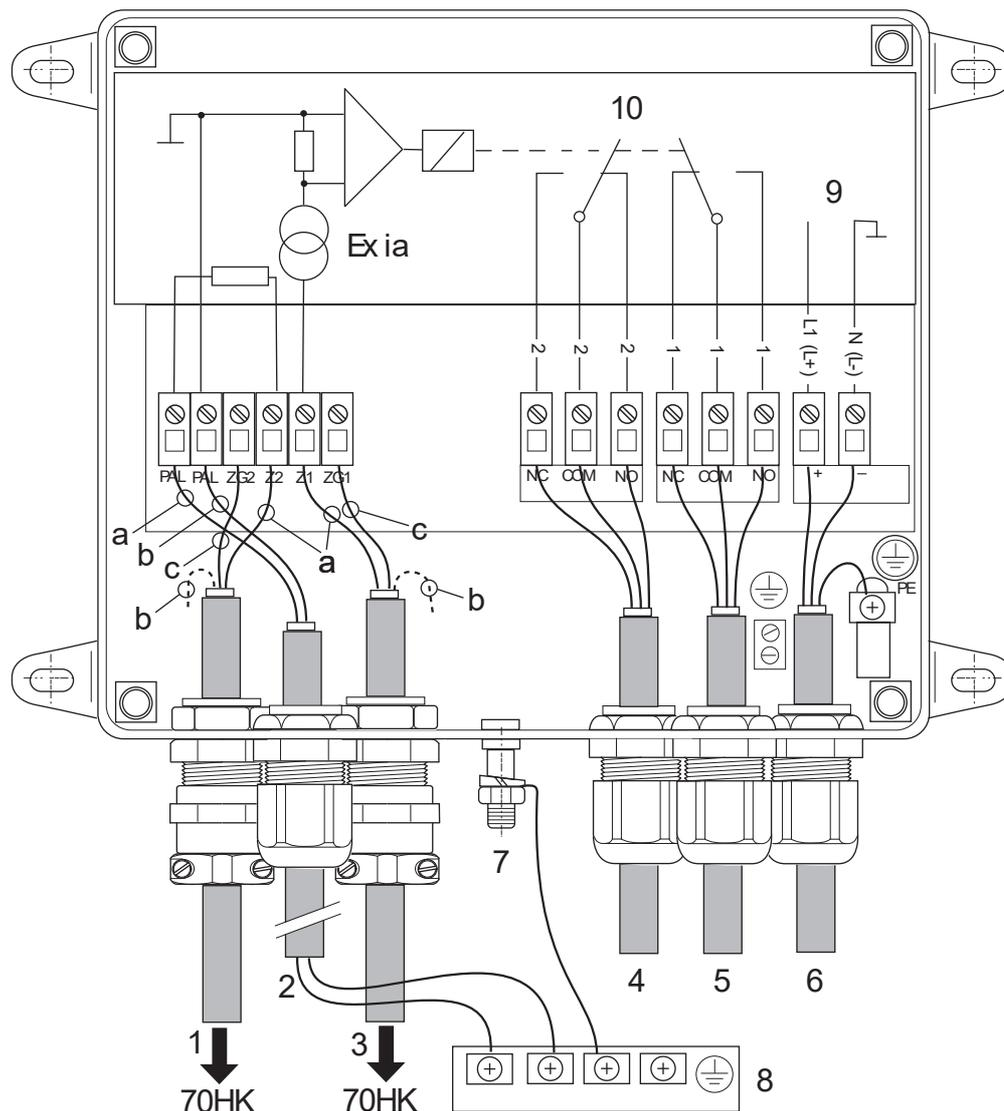

**Fig. 4:**
- The unit must be connected to the equipotential bond via the external ground terminal (7, Fig. 4 / Fig. 5). In addition, the ground terminal inside the enclosure must be connected to a PE conductor or a bonding conductor (see chapter 3.1.2 "Assembly", page 13).
- Intrinsically safe circuits must be routed separately from non-intrinsically safe circuits (separate cable conduits/ducts). Crossing intrinsically safe and non-intrinsically safe leads is not permitted. An equipotential bonding connection (PA) must be established along the entire intrinsically safe measuring circuit (see chapter 3.1.3 "Electrical connections", page 14, chapter 3.2.2 "Electrical connections", page 20).
- A potential equalization system (PA) has to be set up along the complete measuring circuit (see chapter 3.1.3 "Electrical connections", page 14).
The unit must always be connected to the equipotential bond via the external ground terminal (7, Fig. 4 / Fig. 5). In addition, the ground terminal inside the enclosure must be connected to a PE conductor or a bonding conductor.
The connection space of the unit is accessible after opening the cover of the enclosure. The terminals for the clamps are located on the left. These circuits are intrinsically safe. The non-intrinsically safe terminals for the supply voltage and the signal contacts are located on the right (see Fig. 4 / Fig. 5).
- Insert cable and connect according to Fig. 4 / Fig. 5.
The connecting lead of the ground contactor is routed in via the cable gland with kink guard (1, Fig. 4 / Fig. 5). Appliances for BIG-BAG grounding have two contact makers, and the second lead is routed in via an additional cable gland with kink guard (3, Fig. 5).
A two-core cable for connecting the ground circuit with the PAL bonding lead is routed into the connecting terminal space via the cable inlet (2, Fig. 4 / Fig. 5). The double routing ensures that any disruptions to the PAL bonding lead are identified.
The two PAL leads belong to the intrinsically safe circuit, see cable entry 2, Fig. 4 / Fig. 5. The terminals of the Terrabox TCB030 are also marked as intrinsically safe terminals (blue).
The signal leads are routed via the cable inlets (4 and 5, Fig. 4 / Fig. 5), the supply voltage lead is routed in via the cable inlet (6, Fig. 4 / Fig. 5).
In the ex factory state, the lead-ins (2, 4 and 5, Fig. 4 / Fig. 5) are sealed. Lead-ins not used must be blanked off.